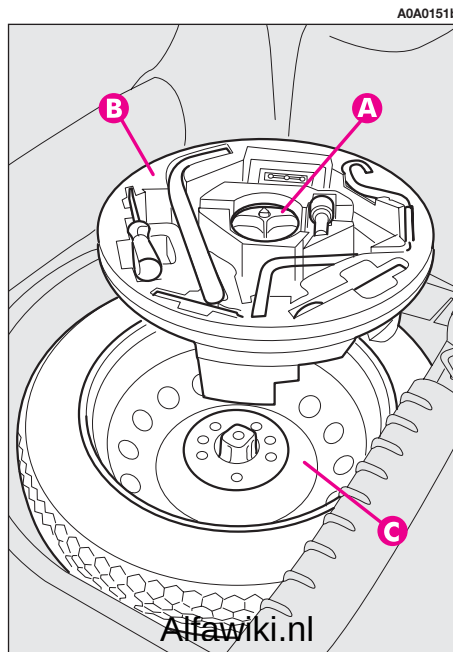

fig. 3
- Loosen the clamping device **(A-fig. 3)**.
— stow the container complete with tools on the spare wheel and secure everything with the clamping device (**A-fig. 3**)